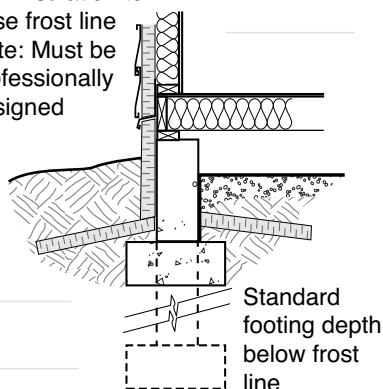

FIGURE 18
- ◆ Have shallow footings professionally designed to minimize frost penetration. Use vertical and horizontal insulation to protect the footings (see Figure 18).